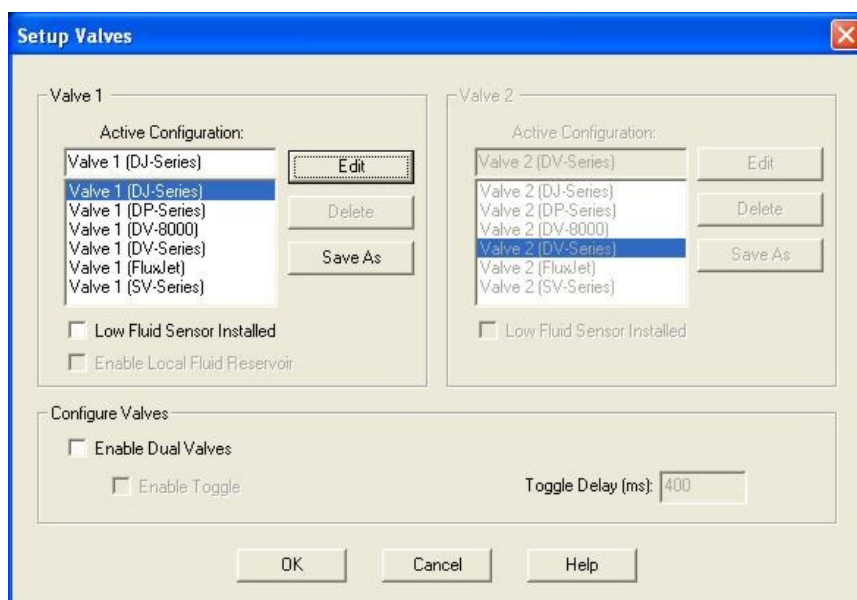

Figure 4-3 Fluidmove Setup Valves
- ▶ The Setup Valves screen (Figure 4-3) opens.